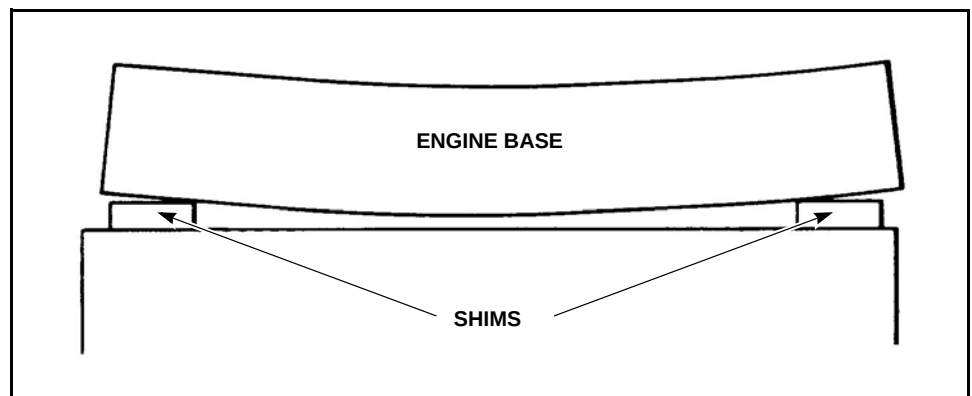

Figure 2-19 Natural Crankcase Sag
7. The mounting points in the center of the engine now need to be shimmed. These are the final two points in the six point mounting. These center support points have some amount of natural crankcase sag (see Figure 2-19). While the engine is supported on the ends, the middle of the case is unsupported, and it will sag. This sag will be compensated for in the shimming procedure.